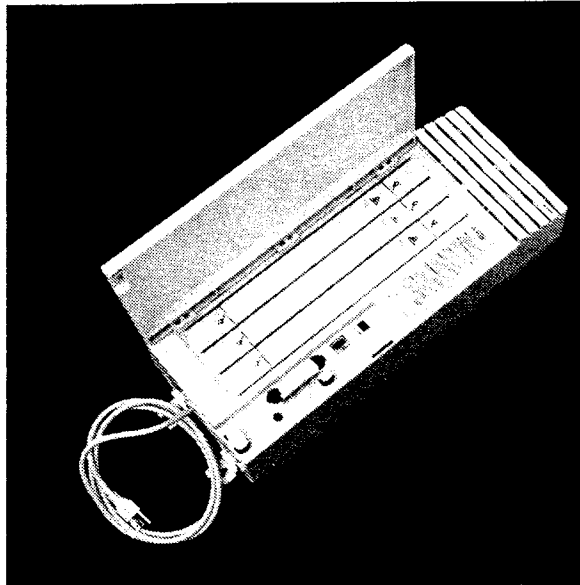

Figure 2.10 - TM without cable trough attached
The M12x0 Trunk Module, shown in Figure 2.10 , allows additional Trunk Cartridge (TC) installation, which in turn allows more CO lines installation to the Norstar system. The TM has three slots in front for inserting Trunk Cartridges (TC). Each TM can add a maximum of 12 CO lines (four CO lines per Trunk Cartridge (TC)).